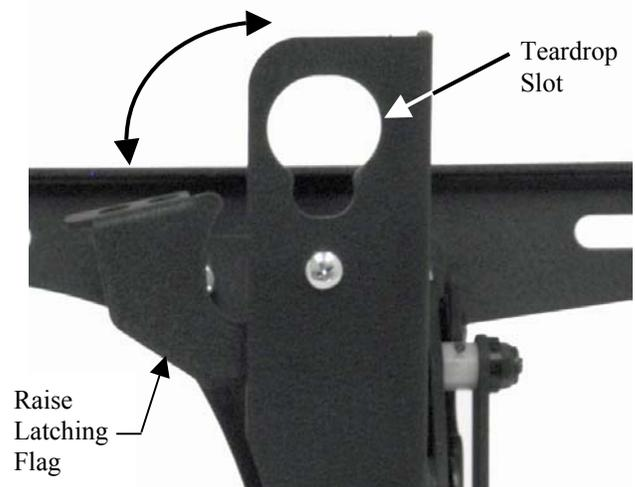

Figure 7. Raise Latching Flag to Lock
2. Raise the latching flag (2 places) to secure the display (see Figure 7). If the flag does not fully engage, check to ensure the mounting buttons are fully seated in the slots.
2. Lower the latching flag to unlock the display (refer to Figure 7).